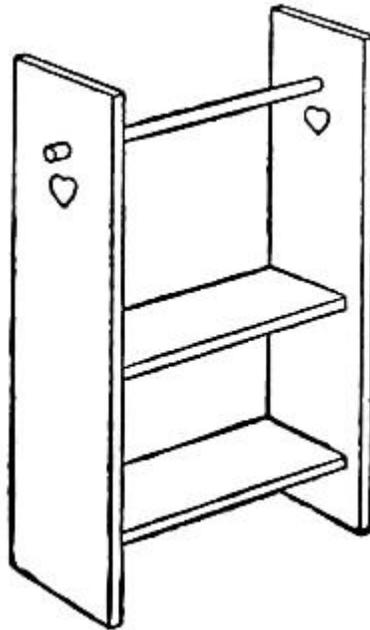

FIG. 138.—A Wash-stand.
**A Wash-stand** can be made for the bath-room and each of the bedrooms similar to Fig. 138. The sides for this should be five inches high by an inch and one-quarter wide, and the shelves one by three inches. Fasten the lower shelf three-quarters of an inch above the base, and the top shelf at a height of two and one-half inches. When the stand has been put together, fit a round stick, about an eighth of an inch in diameter, in holes made in the sides with a (see illustration). This forms the towel-rack. Hang a small drapery over the lower portion of the stand.